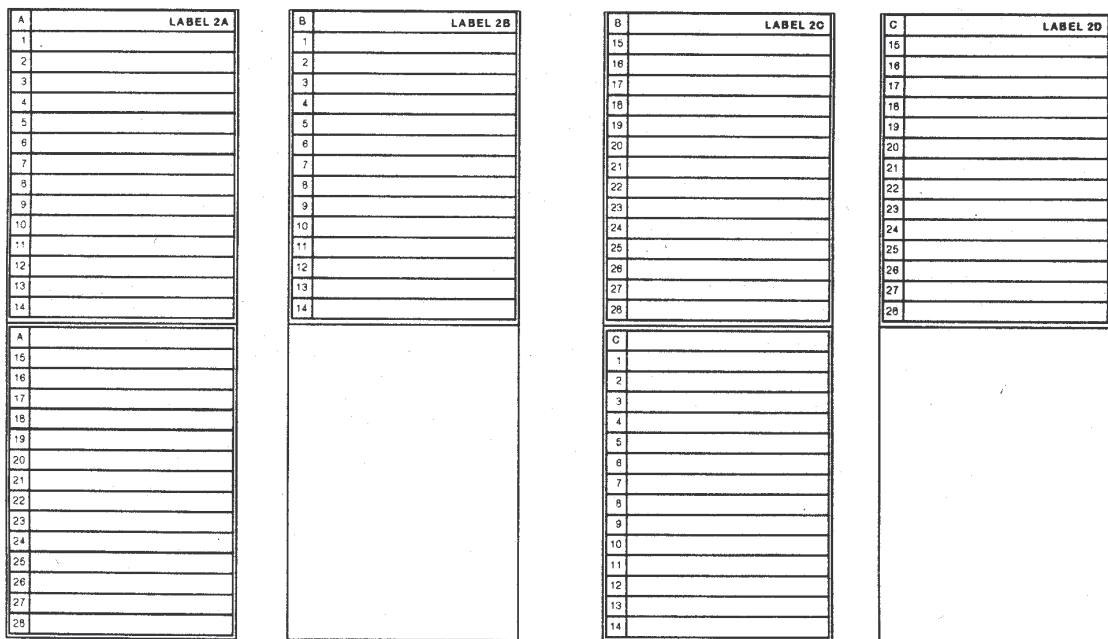

Figure 2. Label Set for 1–28 A, B, and C Circuit Numbering
- For circuit numbering 1–28 A, B, and C, use label sides marked LABEL 2A, LABEL 2B, LABEL 2C, and LABEL 2D (see Figure 2 on page 2).